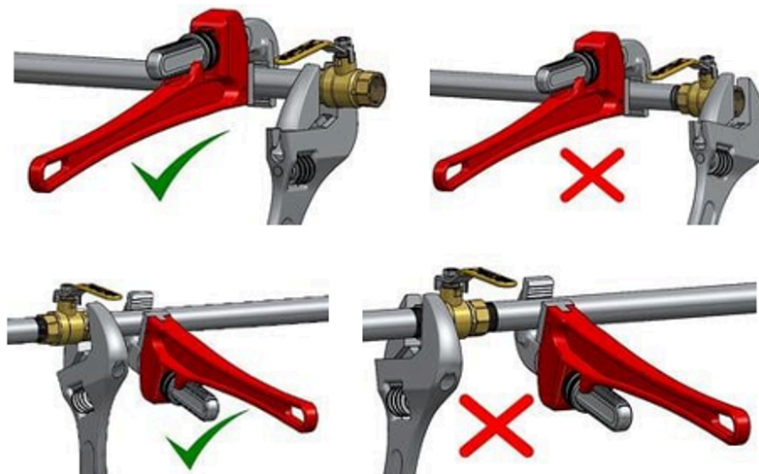

Figure 3. Wrenching ball valves
- Figure 3. “Wrenching ball valves” from Boshart Industries is used for educational purposes under the basis of fair dealing.